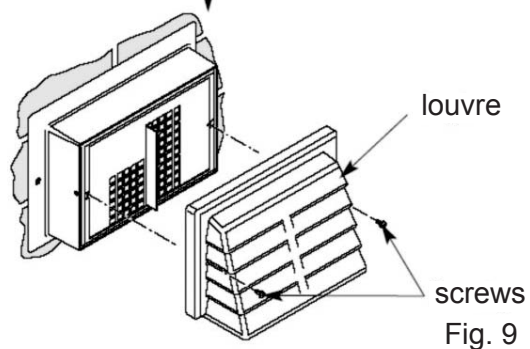

Fig. 9
5. Put the outer louvre to its place and secure it with the two enclosed screws (Fig. 9).